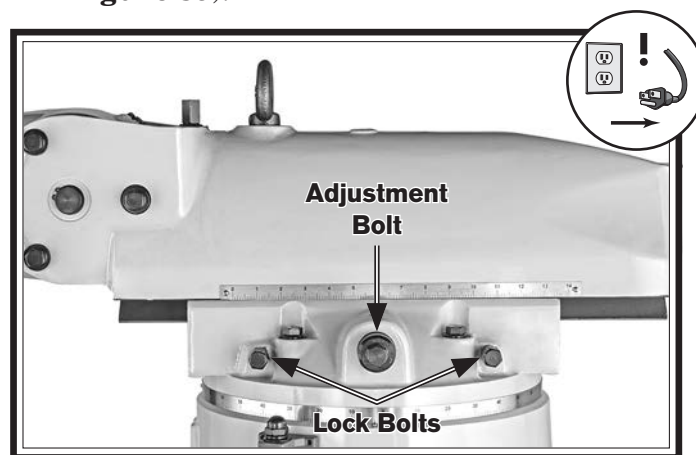

Figure 39. Ram movement controls.
2. Loosen (2) lock bolts on right side of ram (see **Figure 39**).